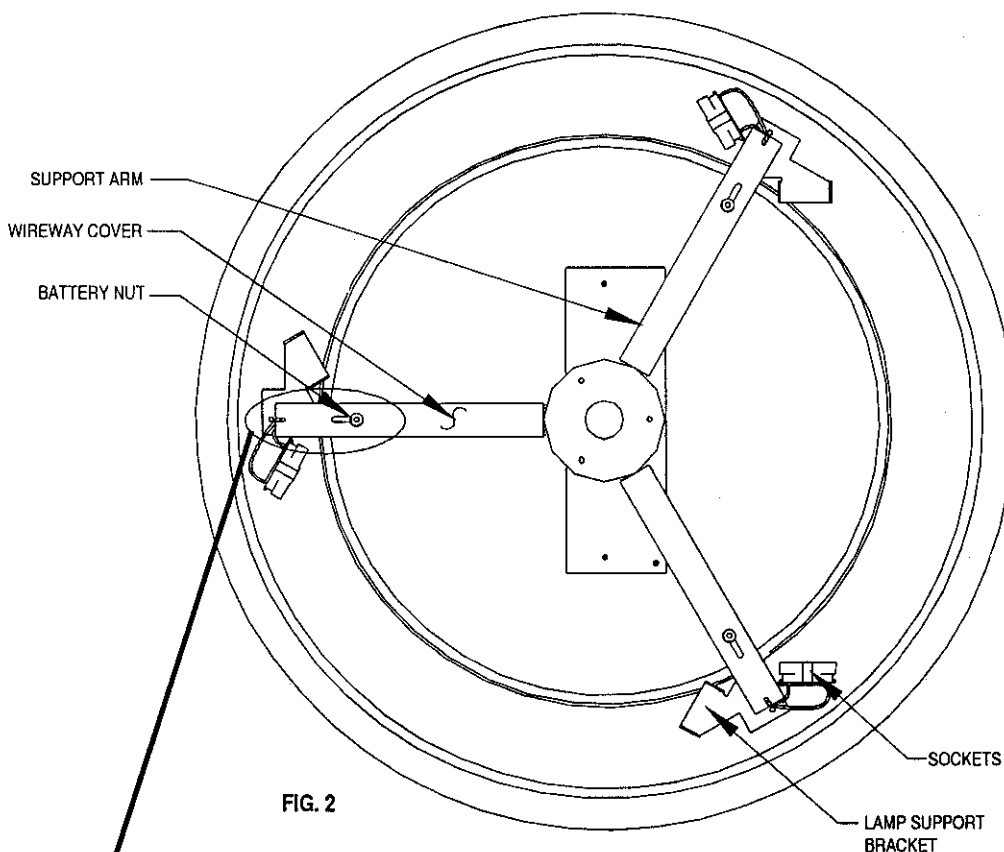

FIG. 2
1. Loosen (do not remove) the BATTERY NUTS that secure WIREWAY COVERS on each of the three SUPPORT ARMS (Fig. 2 and 3A).
5. Install recommended lamps by snapping base of lamp into SOCKET and allowing tip of lamp to rest on LAMP SUPPORT BRACKET (Fig. 2).